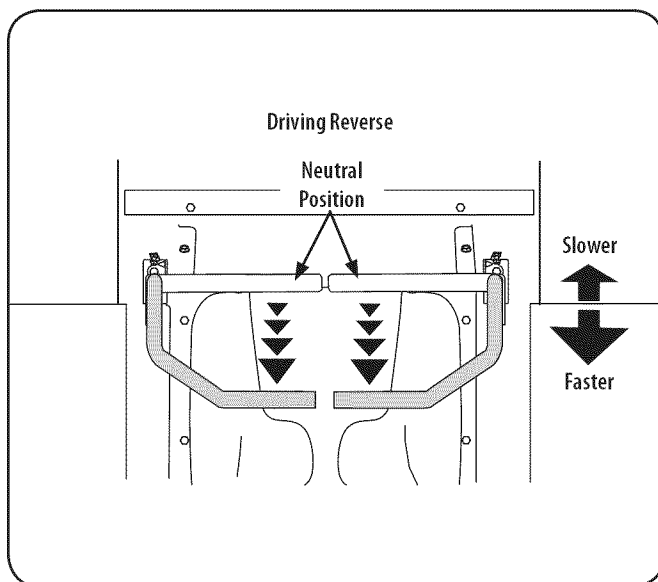

Figure 5
1. Slowly and evenly move both drive control levers rearward. The tractor will start to move in the reverse direction. See Figure 5.